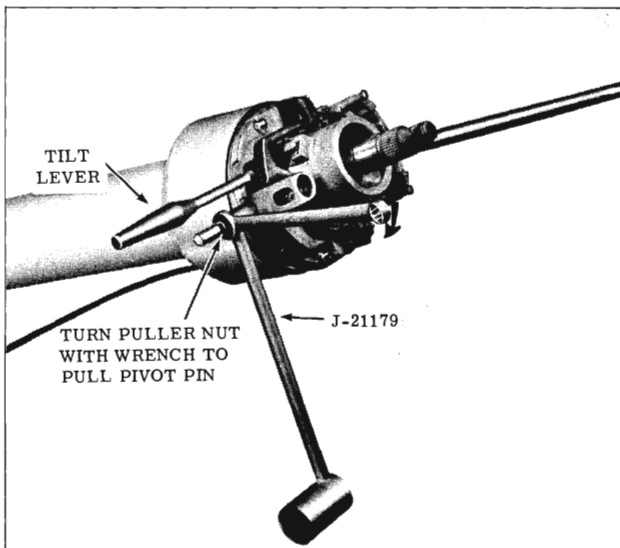

Fig. 4-89 Removing Actuator Housing Pivot Pins
8. Remove the two pivot pins with Tool J-21179. (Fig. 4-89)